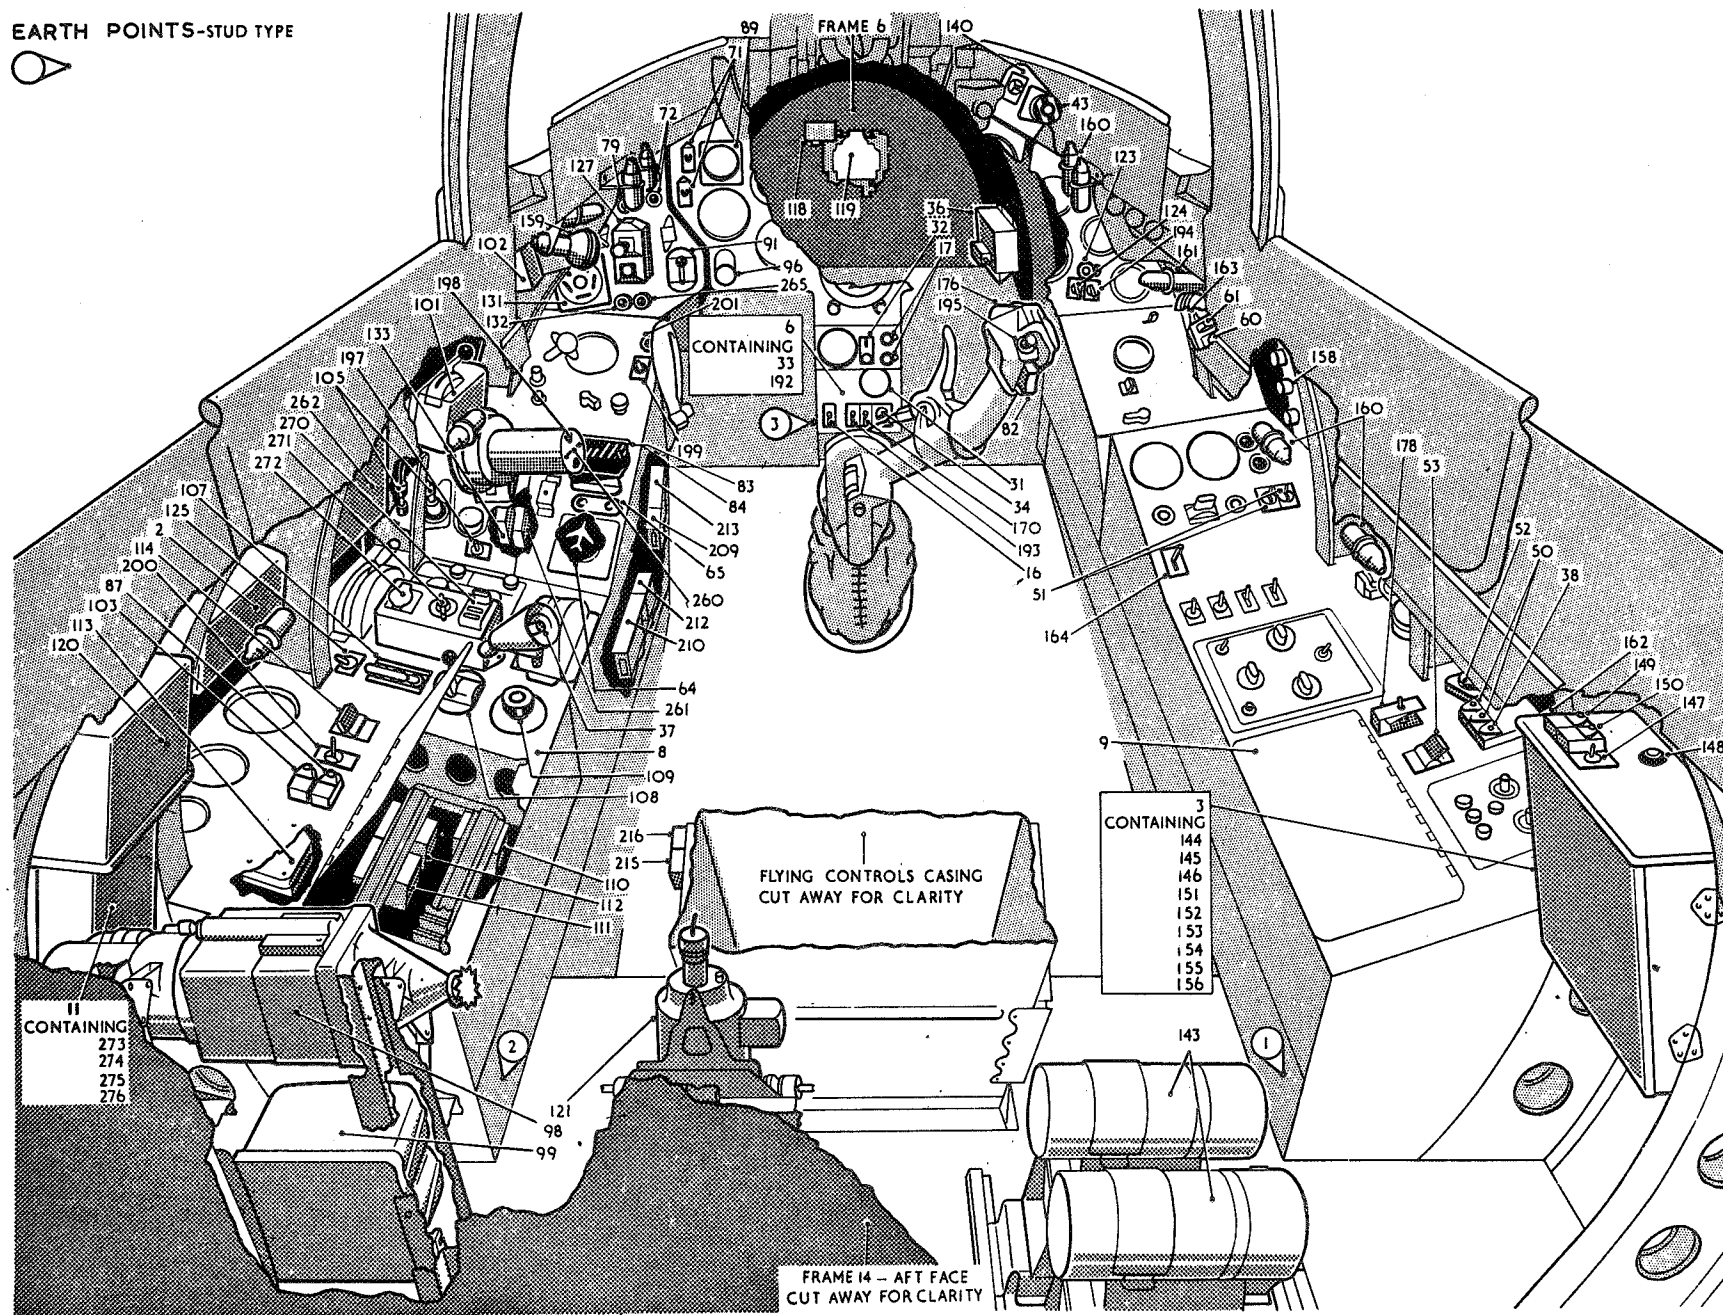

FIG. 2 LOCATION-COCKPIT
4. The location in the aircraft of all the electrical equipment is illustrated in fig. 2 to 6 inclusive. These illustrations should be used in conjunction with the master index of electrical equipment, given in Table 1, when it is required to locate any items of equipment.